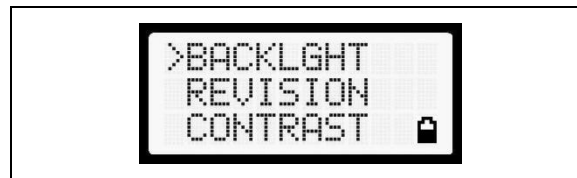

Figure 7-5: Menu Display
2. Upon entering the menu selection mode, Menu options will appear in the display (see Figure 7-5).